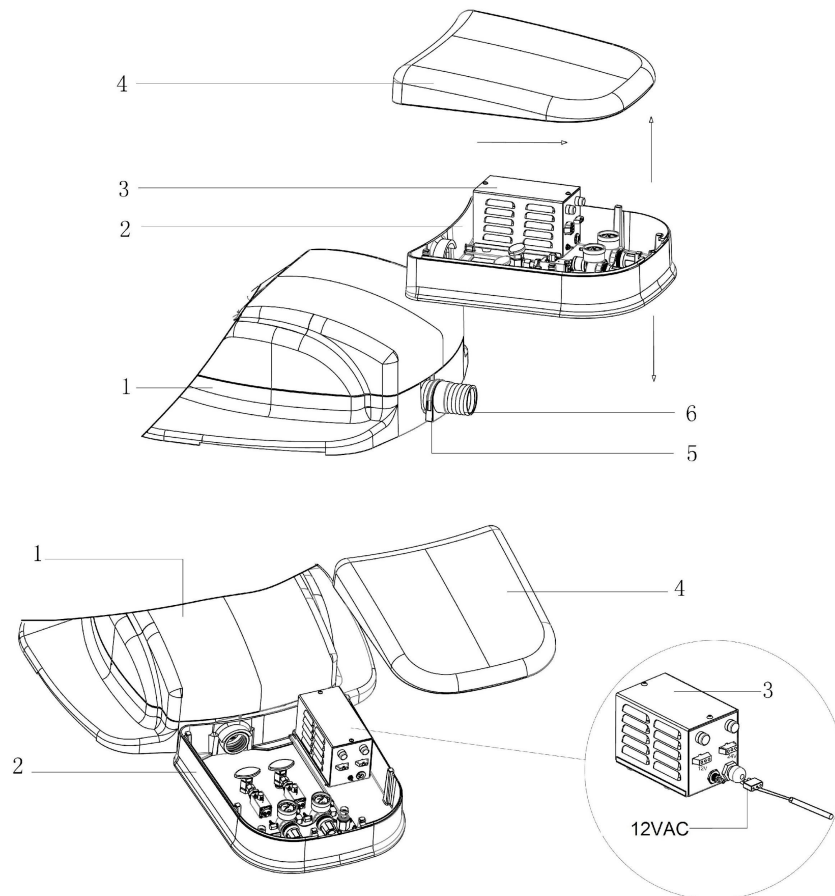

Figure 16. Contoured utility center Installation
1. Remove the contoured utility center upper cover ④ from the base ② by pushing it as shown on Figure 16.
6. Install the 2" corrugated tubing ⑥ to the contoured utility center.
8. Install the voltage transformer ③ in the specified location shown on Figure 16.